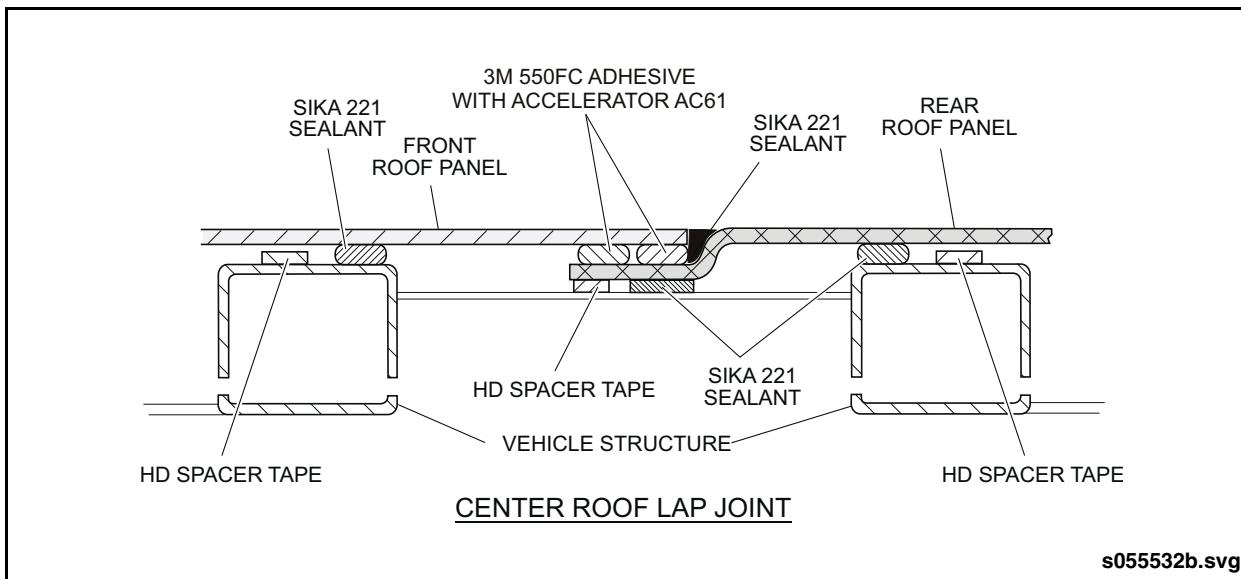

Fig. 13-7: Roof Panel Cross Section
17. Apply a continuous circular bead of 550FC Adhesive/AC61 Accelerator Sealant near outer edge of center lap joint. Apply a second continuous circular bead near the inner or forward edge. *See "Fig. 13-7: Roof Panel Cross Section" on page 22.*